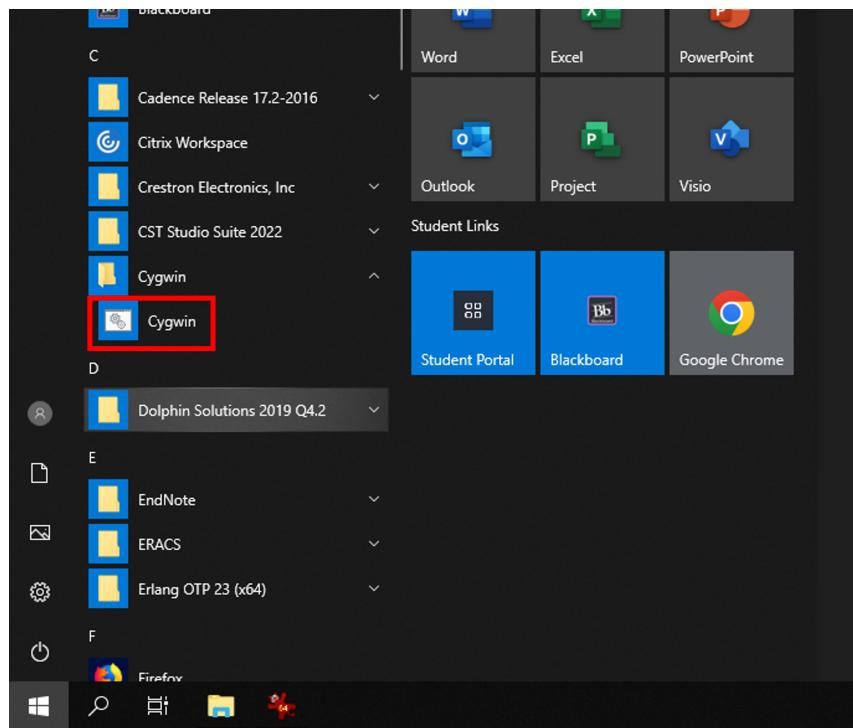

Figure 3.8: Opening Cygwin.
7. Open a *Cygwin terminal* (See figure 3.8).